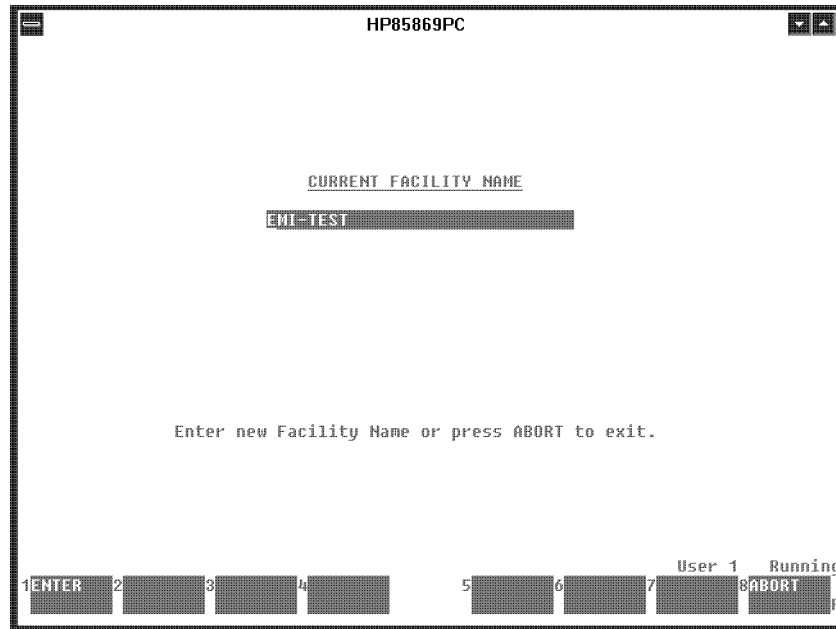

Figure 10-8. Facility Name Prompt Screen
1. Press the **Name** softkey on the system utility menu. A display similar to Figure 10-8 is displayed on your computer screen.